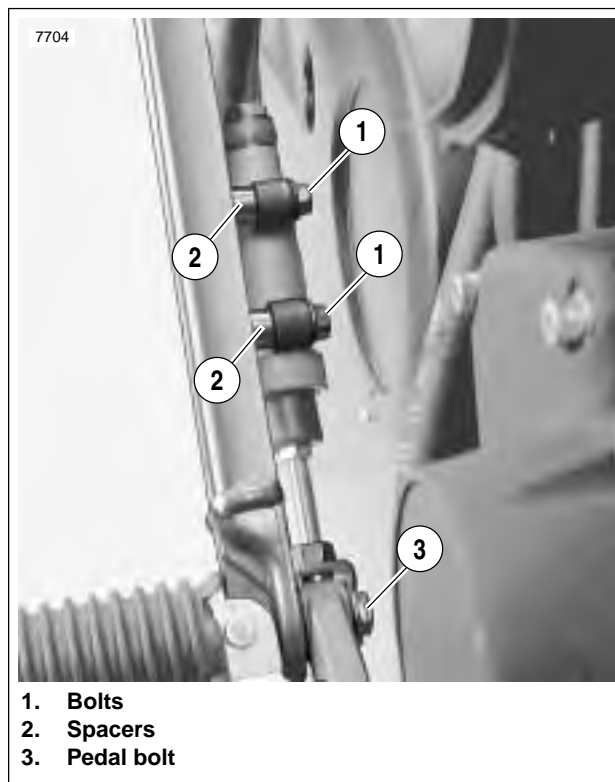

Figure 2-104. Master Cylinder Mounting
1. See Figure 2-104. Remove master cylinder bolts and spacers.